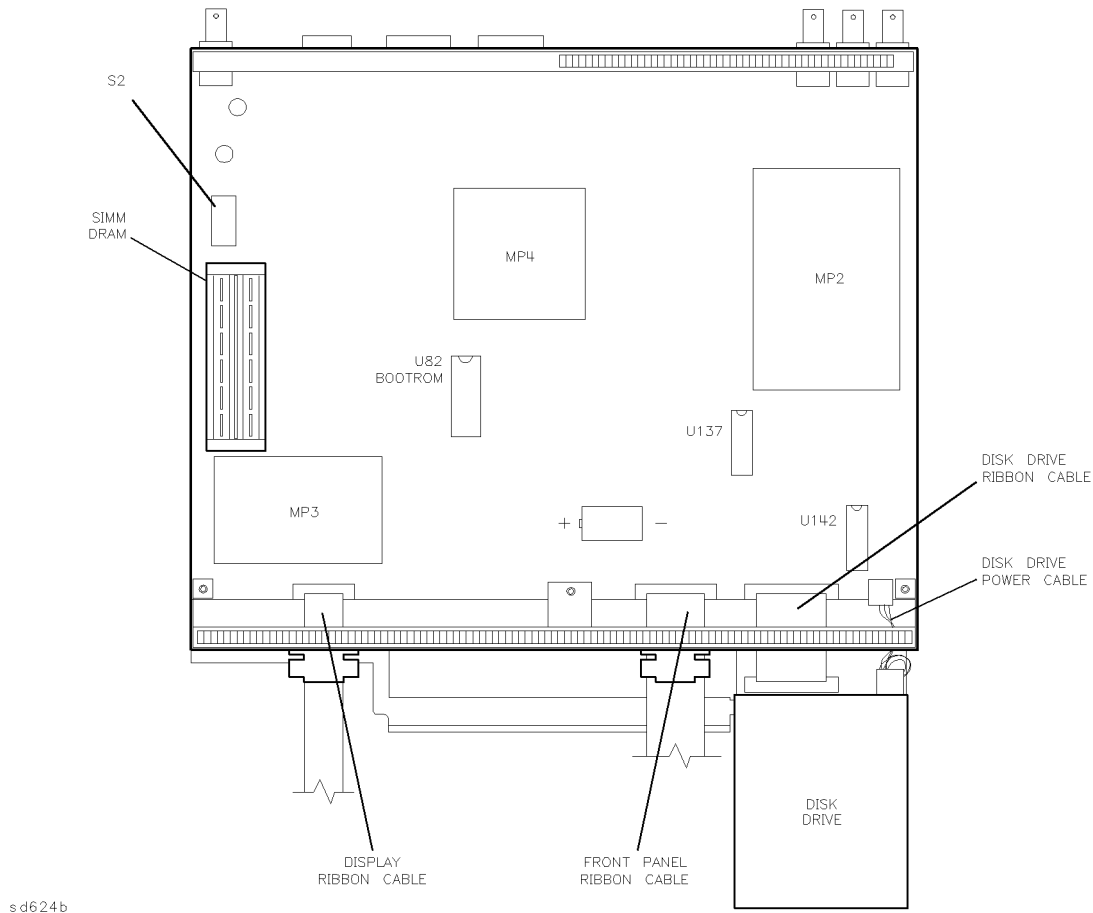

Figure 3-3. BootROM U82, Component Location
- a. Locate bootROM U82. See Figure 3-3.